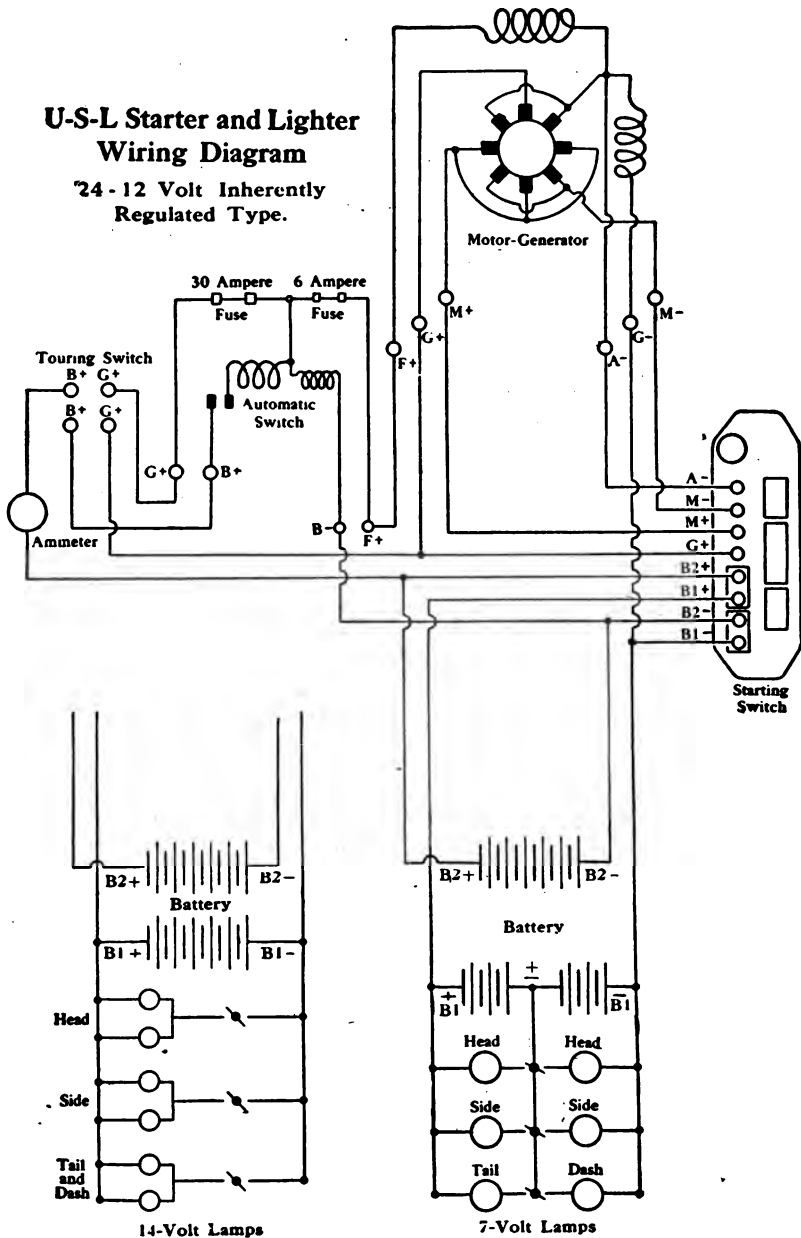

Fig. 335. Wiring Diagram for 24—12-Volt Inherently Regulated Type, U.S.L. System
**Starting Switch.** The starting switch is filled with oil, and this should be renewed once a year. To do this, the switch must be disconnected, and the screws *A*, Fig. 336, removed; in case the box sticks, insert a screwdriver point between the top of the box and the bottom of the frame and pry loose. To guard against the switch dropping when these screws are removed, hold the hand beneath it while taking them out. Before attempting to remove the switch, disconnect the positive battery connections *B1+* and *B2+* at the battery as shown in Fig. 335. These are the two main terminals in the center. It is unnecessary to tape them, as a short-circuit cannot occur. Pour out the old oil, clean out thoroughly with gasoline, allow to dry, and refill with transformer oil or light motor oil to the proper level with the switch box standing plumb. The proper height on the Type E-2 or E-3 box is  $1\frac{1}{8}$  inches, on E-4 box  $2\frac{3}{4}$  inches. Before